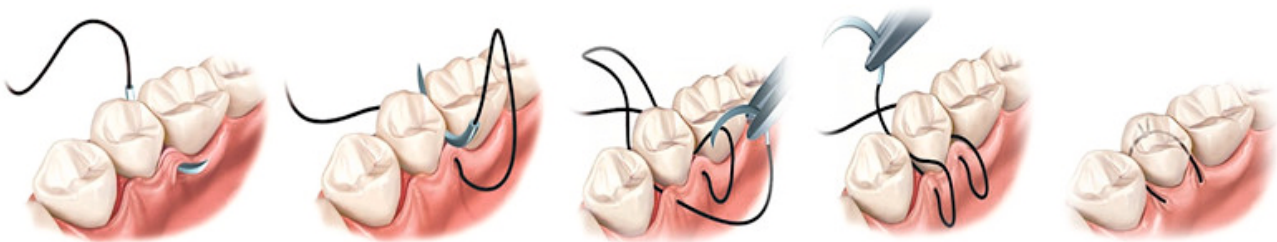

Figure 9 – Sling Suture Technique (8)
When surgical operations are applied in limited regions, for example, if lambo is lifted from one side, this suture technique is common. This is also applied when buccal and lingual flaps are desired to be placed in different positions. Needle passed from hemisects of the tooth to the outer surface of the buccal flap, perambulates the teeth and passed from the palatal flap in distal. The suture is brought back to hemisects where suture starts, passed from the internal surface of the buccal flap and knotted (Figure 9) (7).